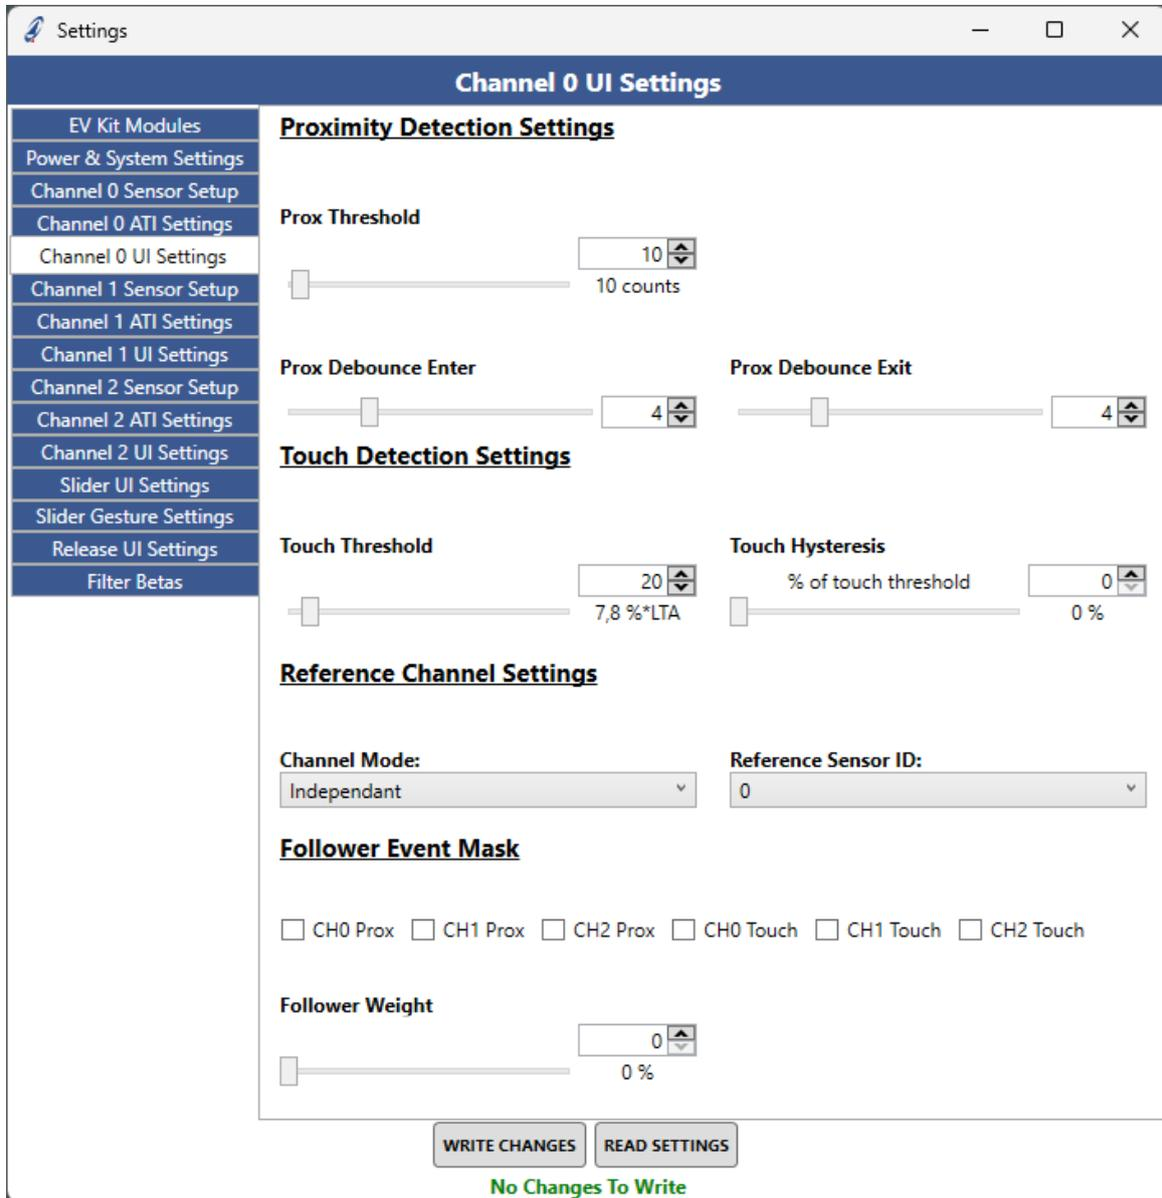

Figure 4.4: Channel UI Settings
The “Channel User Interface (UI) Settings” tab can be used to configure the channel proximity and touch thresholds, debounce values, and hysteresis settings as shown in Figure 4.4. Other settings, such as the reference and follower channel settings can also be configured as shown in Figure 4.4.